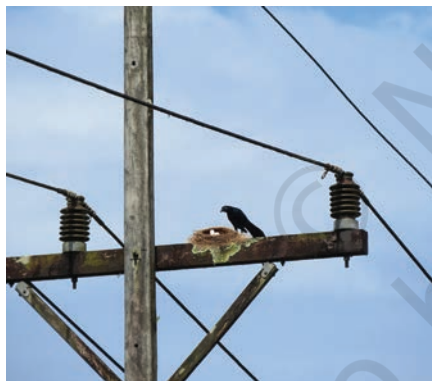

Fig. 4.56 Bird's Nest on Cross Arm
- Bird nest or creeper on cross arm (Fig. 4.56)